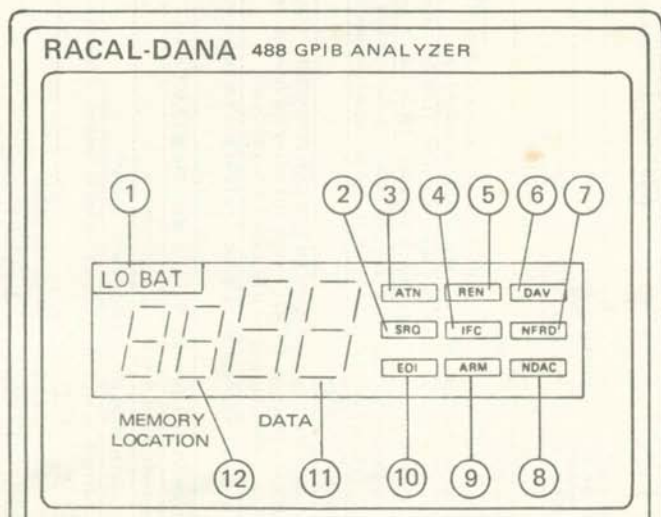

Figure 3.2 - LCD Display Exhibits
3.3.2 Indicators include MEMORY LOCATION, DATA, and 10 individual indicators. The display is shown in Figure 3.2 and described in Table 3.2.